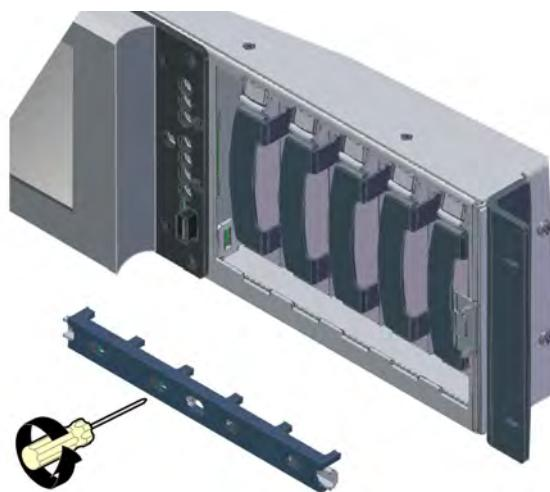

Figure 3-5 Remove the Drive Retaining Bracket
5. Use a Phillips screwdriver to loosen the four screws that secure the drive retaining bracket, then slide the screws toward the center of the bracket, and remove the bracket as shown in Figure 3-5.